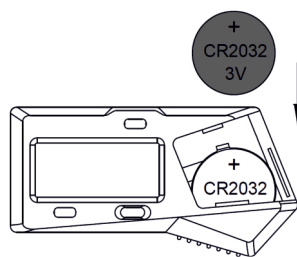

Fig. 2
- » Insert the CR2032 battery with the positive side (+) facing outward (Fig. 2).